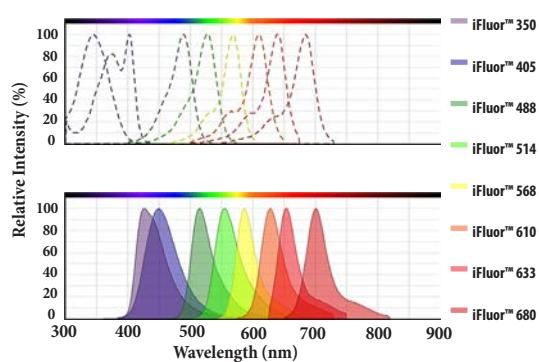

Figure 1.2 Excitation (above) and emission (below) spectra of the iFluor™ dye series.
- An "Export" function to save graphs as a .PNG file (example of export below Figure 1.2)